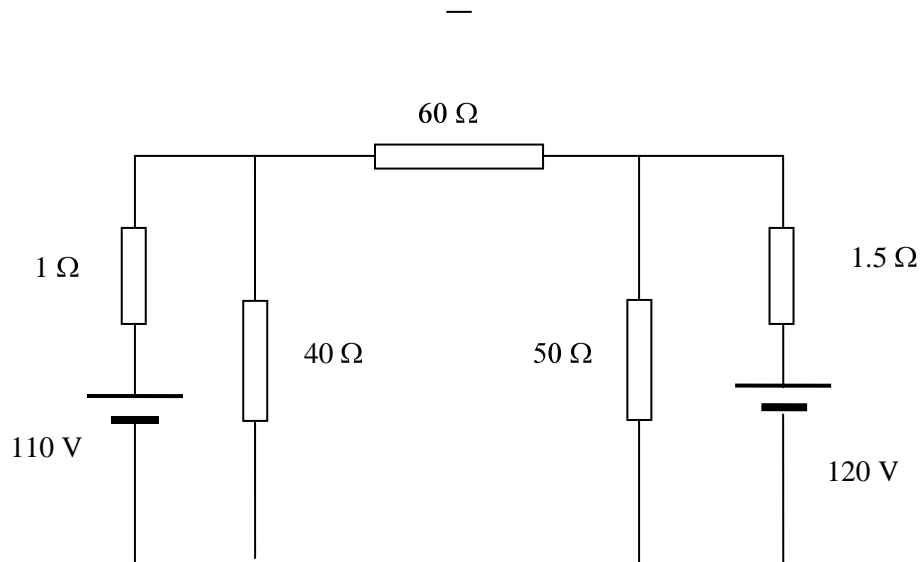

Fig Q1
1. For the network shown in Fig.Q1 calculate each of the following:
- (a) the current drawn from each battery; (8)
- (b) the potential difference across the  $40\ \Omega$  resistor and across the  $50\ \Omega$  resistor; (4)
- (c) the power dissipated in the  $60\ \Omega$  resistor. (4)